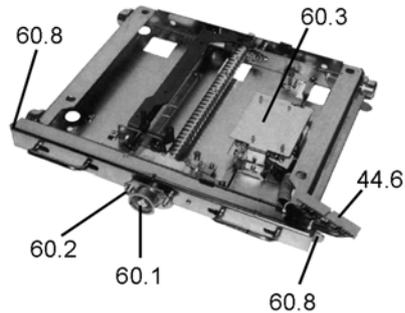

Figure 3.6
- the withdrawable assembly (60)
The withdrawable assembly (60) and the circuit-breaker are coupled via a multi-pole control wiring plug connector (44.6) (Figure 3.6).